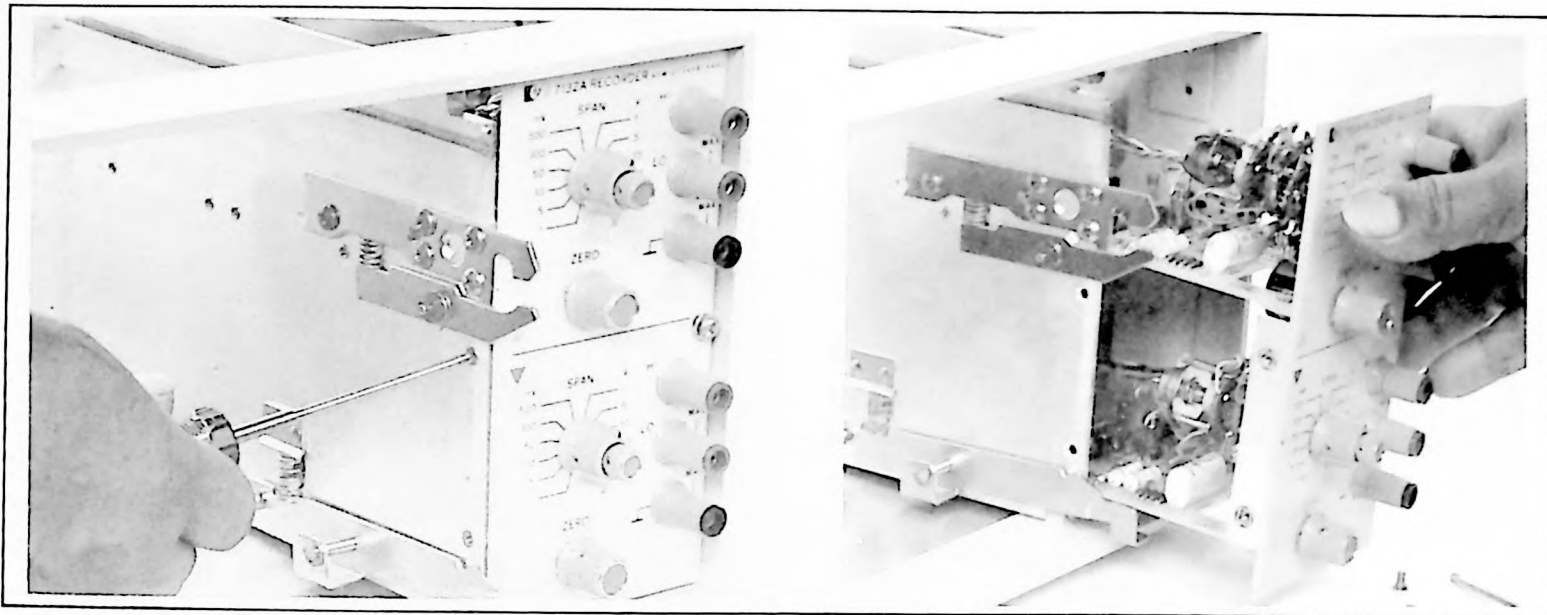

Figure 5-8. Front Panel Removal
f. Front Panel — Two screws on left inside and one screw on center of front panel are removed. Ease panel out together with any attached preamplifier circuit boards. See Figure 5-8.